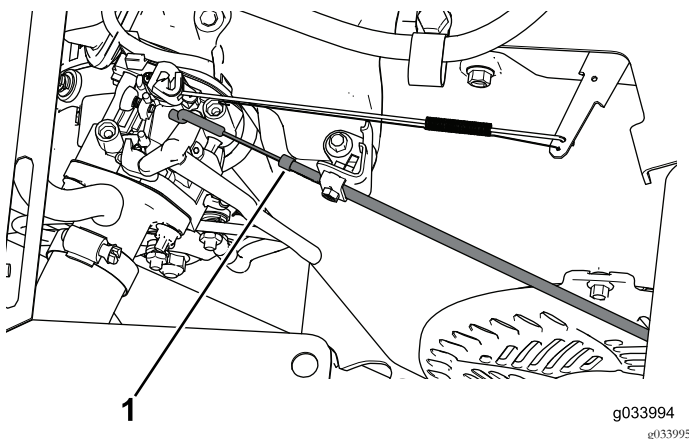

Figure 11
5. Disconnect the choke cable from the engine (Figure 11).